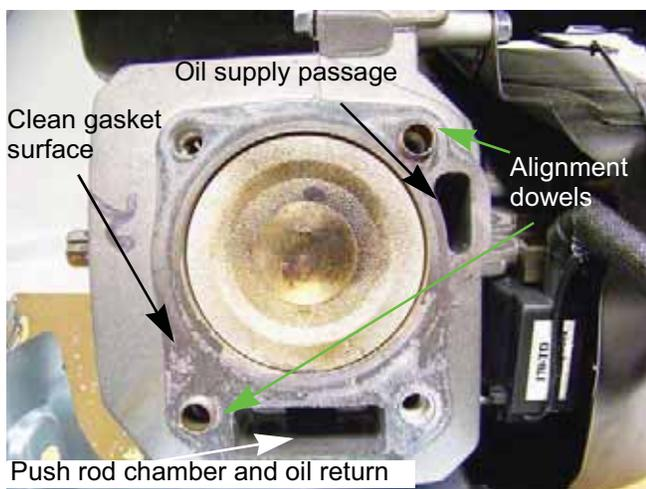

Figure 9.8
7. Carefully clean all sealing surfaces of all gasket residue. Do not scratch the sealing surfaces. See Figure 9.8.